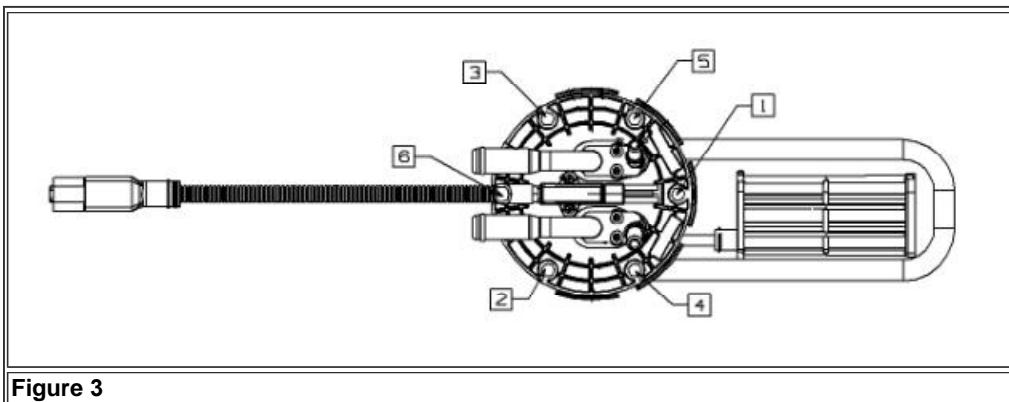

**Figure 2: SSI DEF level sensor and tank assembly**
1. Place new DEF Level Sensor seal (Figure 2 Item 3) around sensor opening on new DEF Tank (Figure 2 Item 1)
2. Carefully insert new DEF Level Sensor/ Multifunction Head Unit (Figure 2 Item 2) through opening on seal and tank (Figure 2 Items 1 and 3)
3. Use 6 new bolts (Figure 2 Item 4) to secure DEF level sensor to tank. Tighten to 9-18 inch-lbs (1-2 Nm) using pattern in Figure 3. Repeat pattern tightening to 35-80 inch-lbs (4-9Nm).